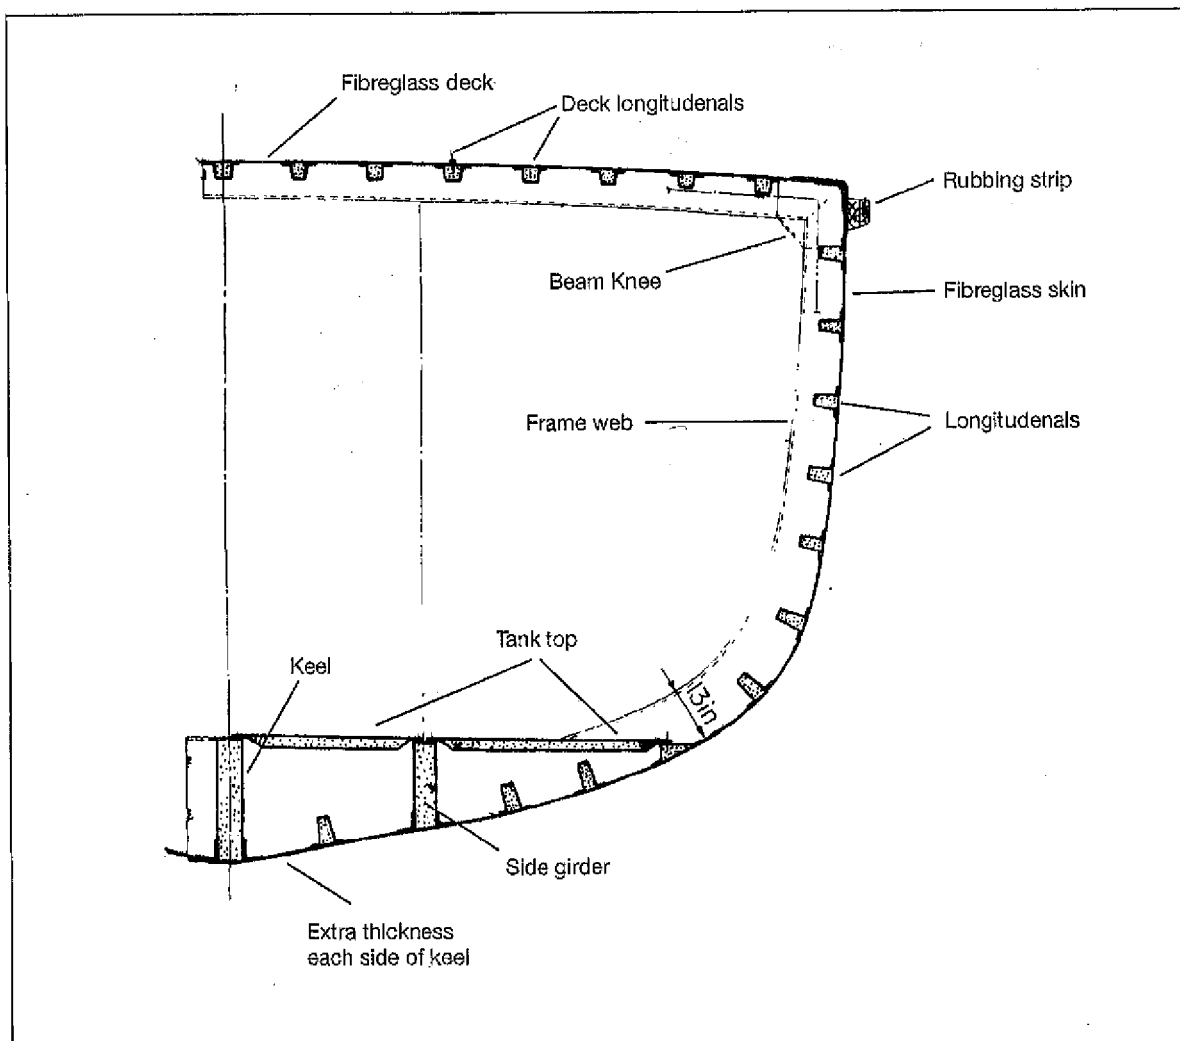

Fig 2.3 Fibreglass Hull Construction
- Figure 2.3 shows a typical construction method for a fibreglass hull